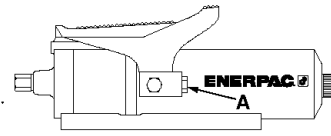

Figure 3
1. See Figure 3. Remove pipe plug from the female $\frac{3}{8}$ " NPTF hydraulic swivel connector (A), and install the male end of a $\frac{3}{8}$ " NPTF hydraulic fitting. The fitting can be a high flow coupler, hose, or gauge adaptor.